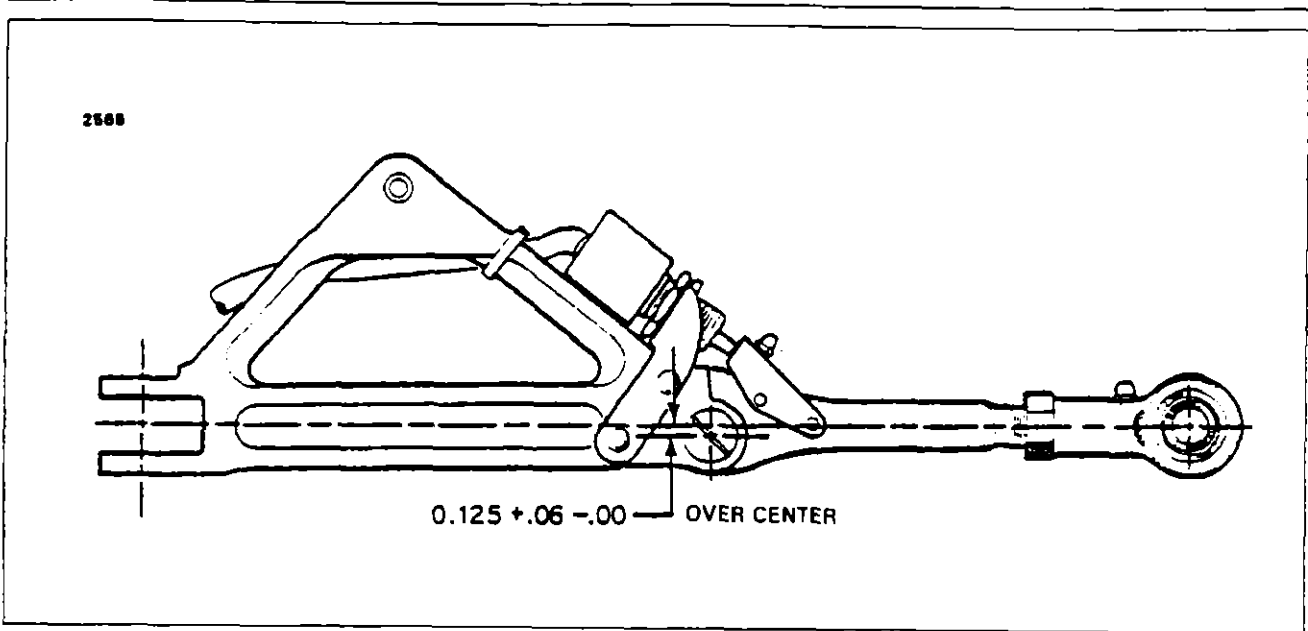

Figure 7-8a. Main Gear Side Brace Link Travel
7. Check side brace link through center travel by attaching the upper and lower links, setting them on a surface table, and ascertaining that when the stop surfaces of the two links touch, linkage is not more than $\pm .125$ of an inch $+.061-A0$ through center. Should the distance exceed the required through center travel and bolt and bushings are tight, replace one or both links. (Refer to Figure 7-8A.)